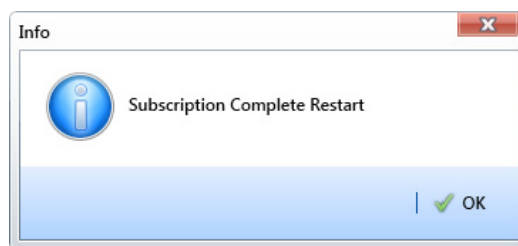

Figure 17-7. Subscription Complete Restart
- 6 Click  **OK** when the message *Subscription Complete Restart* displays (Figure 17-7).